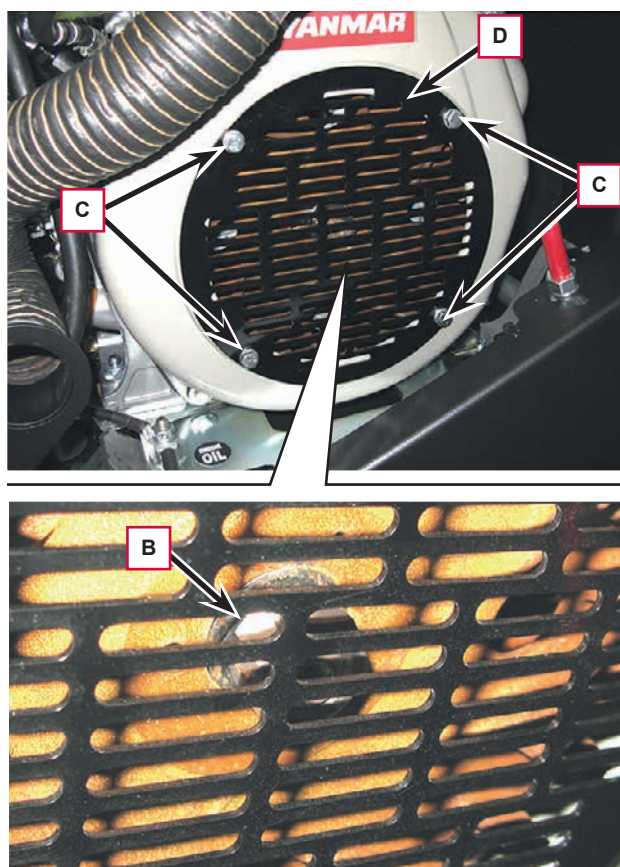

Figure 3
4. Check that the indicator (B, Figure 3) is present on the crankshaft, otherwise unscrew the screws (C) and remove the grid (D), then apply it.